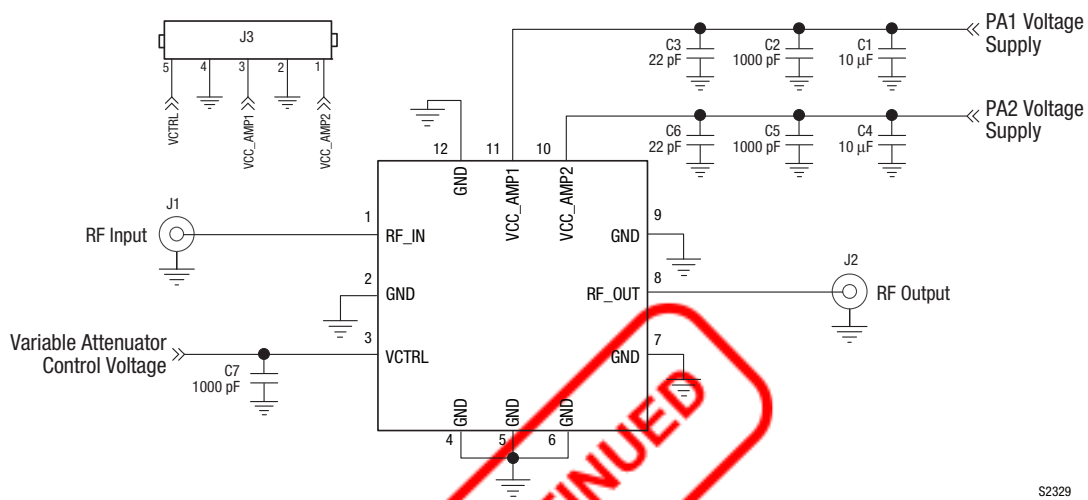
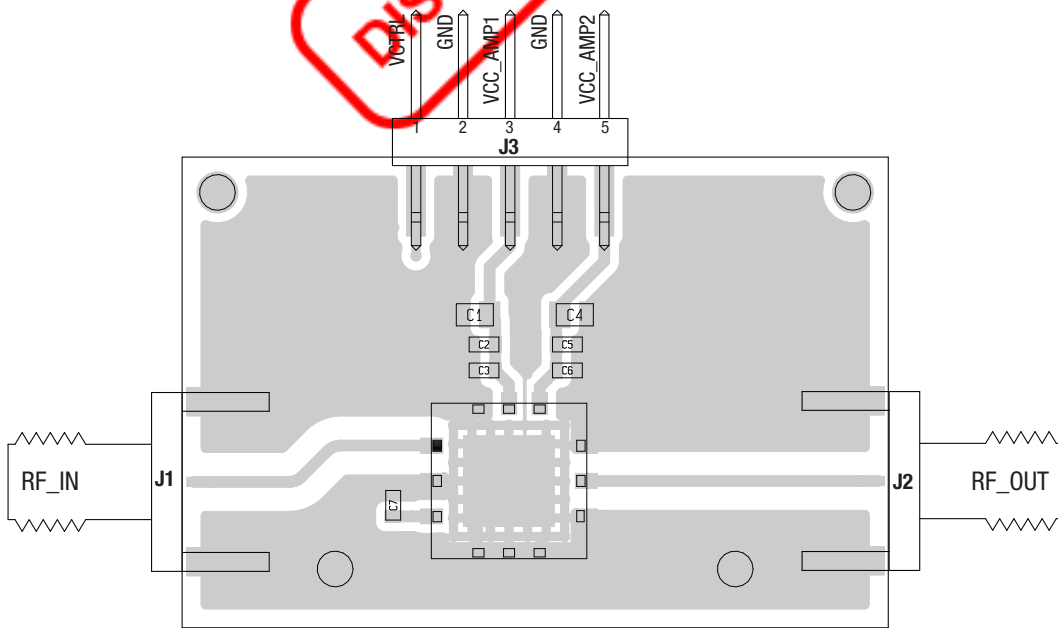

Figure 10. SKY65387-11 Evaluation Board Schematic
Figure 11. SKY65387-11 Evaluation Board Assembly Drawing
The Skyworks SKY65387-11 Evaluation Board is used to test the performance of the SKY65387-11 VGA. An Evaluation Board schematic diagram is provided in Figure 10. An assembly drawing for the Evaluation Board is shown in Figure 11 and the layer detail is provided in Figure 12. The layer detail physical characteristics are noted in Figure 13.
- It is recommended that the layout for the VCC\_AMP1 and VCC\_AMP2 signals follow what is shown in Figure 11. The VCC\_AMP1 and VCC\_AMP2 traces can be tied together to share the same power supply. The connecting node should not be placed close to the package pins. The connecting node should be connected closer to components C1 and C4 (see Figure 10). This is to provide isolation between VCC\_AMP1 and VCC\_AMP2.